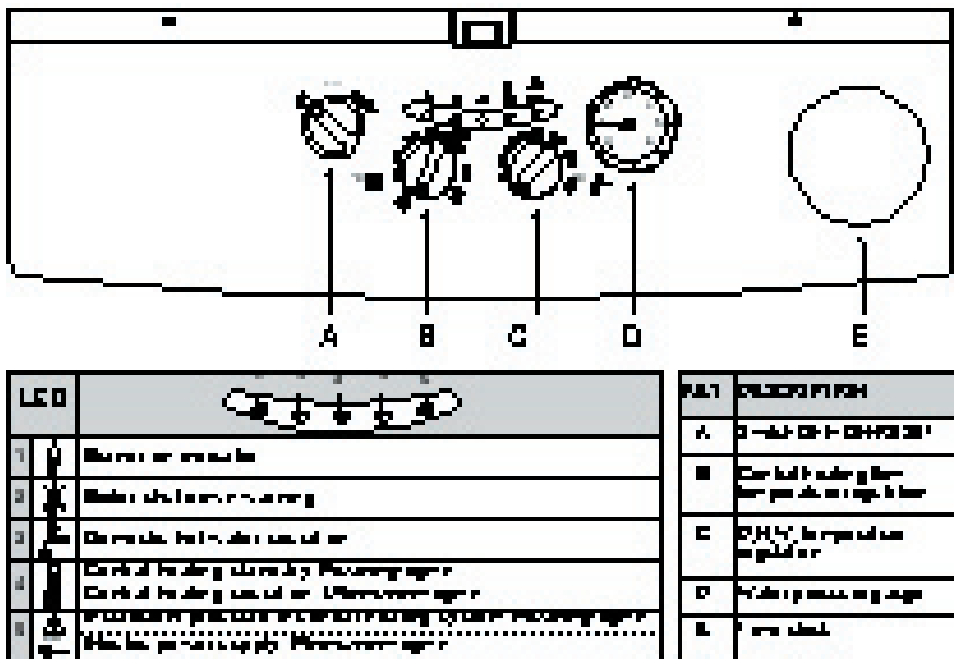

Fig. 1
- Turn the switch A (fig. 1) to the ON position.
Turn the switch A (fig. 1) to the OFF position.
To set the system flow temperature, use the C.H. control knob B (fig. 1). Turning it clockwise increases the temperature, turning it anticlockwise decreases it.
To set the hot water temperature, use the D.H.W. control knob C (fig. 1). Turning it clockwise increases the temperature, turning it anticlockwise decreases it.
To obtain hot water only from the boiler, turn switch (A fig. 1) to the on position. The top green light on the left side of the control panel is illuminated (power on ■■■■■).
Turn the temperature regulator (B fig. 1) to the ☀️ position. Open a hot water tap, green light (tap symbol) comes on, fan starts and burner will light. Indicated by flame symbol, green light coming on. The temperature of the hot water can be adjusted by turning the hot water thermostat (C fig. 1) clockwise to increase and anti-clockwise to decrease the water temperature.
To obtain heating from the boiler, turn the temperature regulator (B fig. 1) clockwise to the maximum position, ensure that any other heating controls e.g. room thermostats, clock etc. are in the on position.
The boiler pressure gauge (D fig. 1) should read at least 1 bar.
In the event of the red lockout light () coming on, the on/off/reset switch (A fig. 1) should be turned clockwise against the spring tension to the reset position and released (this will put the boiler into three minute delay if in the heating mode). Check gas supply or condensate discharge. Clean condensate discharge if dirty or obstructed. If the lockout light () illuminates repeatedly, contact an approved Ferroli service engineer.